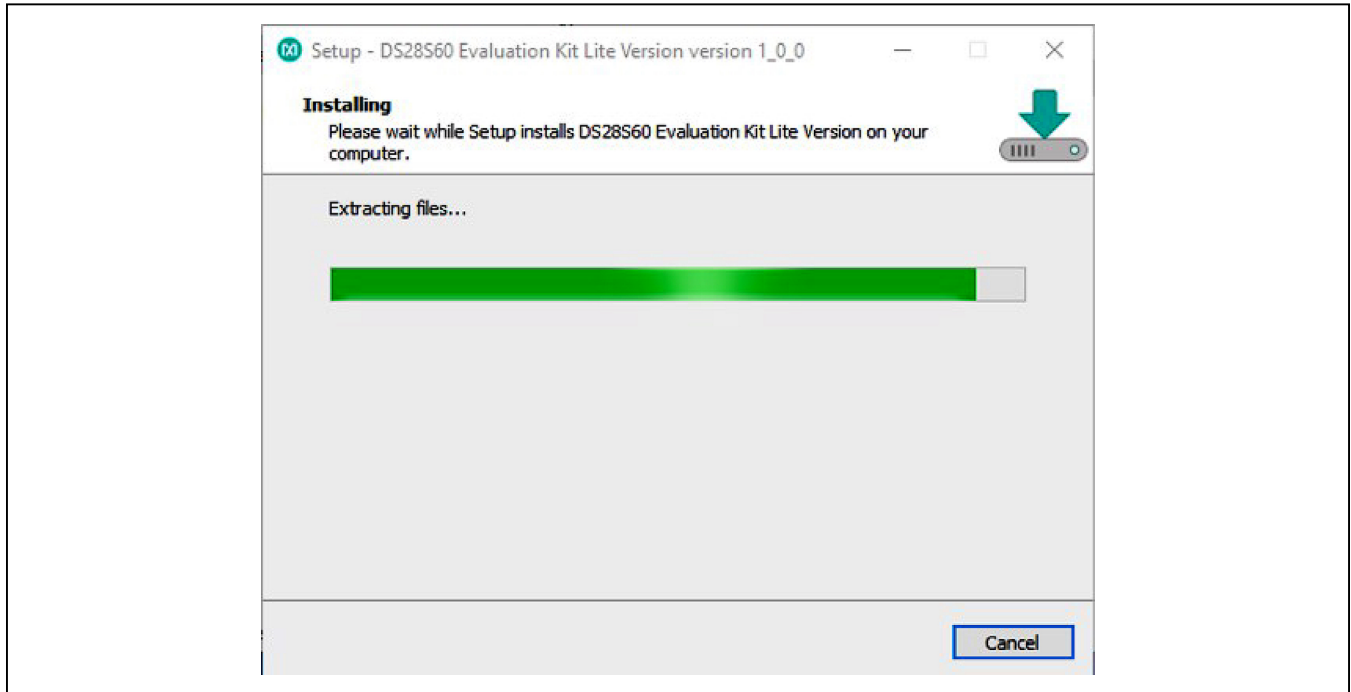
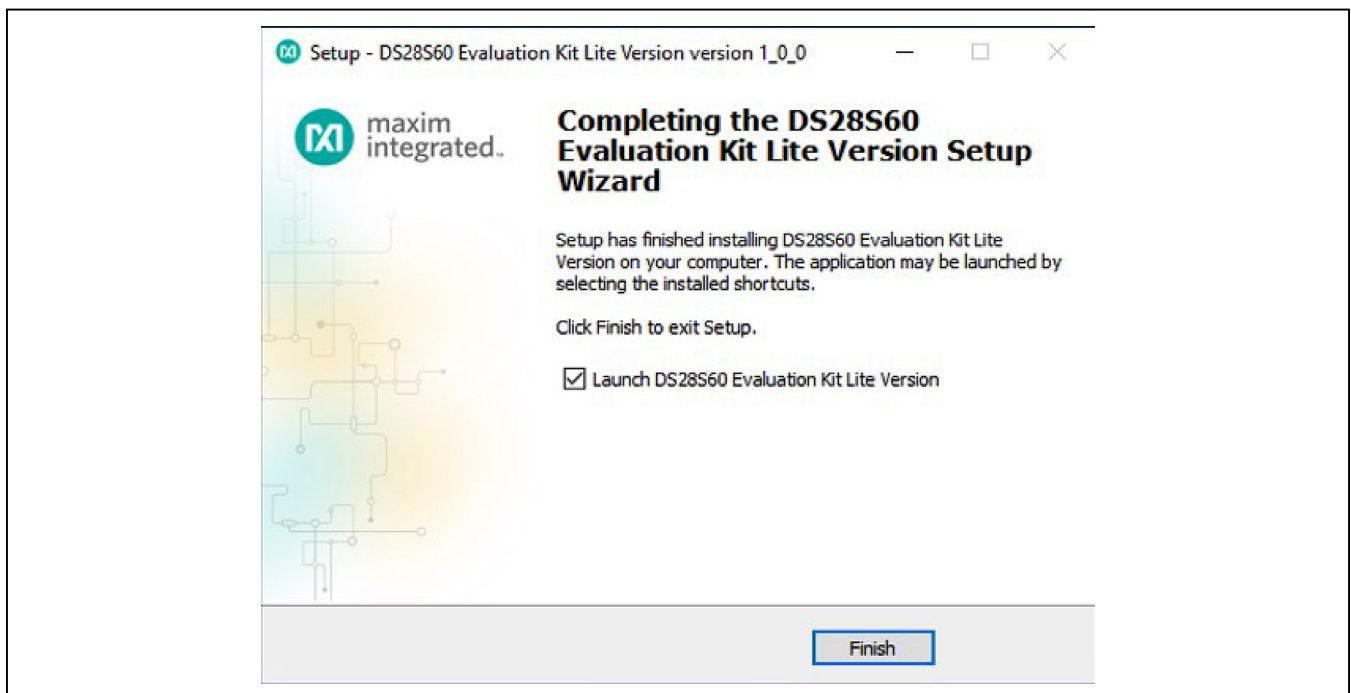

Figure 5. Installation Progress
Figure 6. Run Software After Installation
- 5) Wait for the Installation to complete and launch program if desired after completion (Figure 5 and Figure 6).